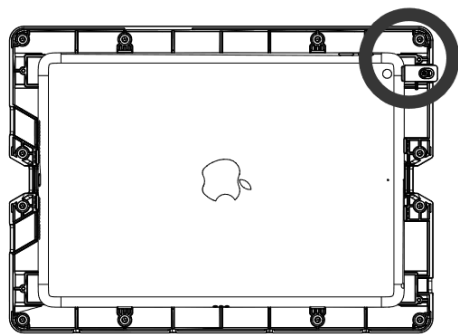

Figure 5.2 Corner of the tablet featuring the on/off button and the camera
The button ① is clogged with dirt	Open the Rehadapter and clean the button area (Fig. 5.2)